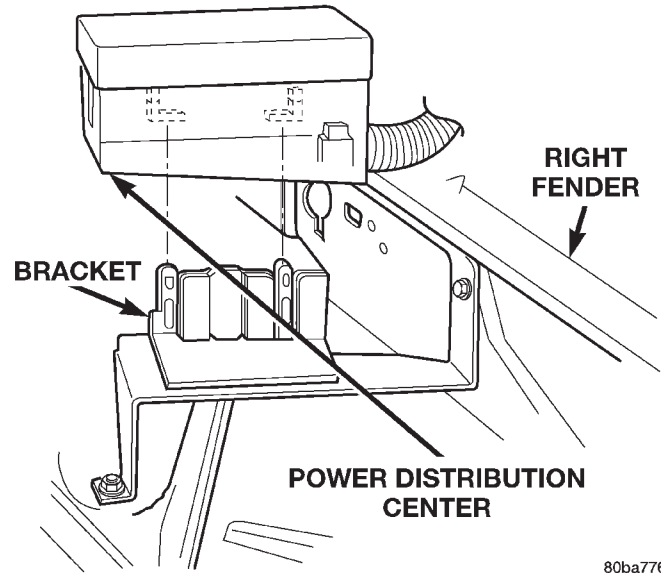
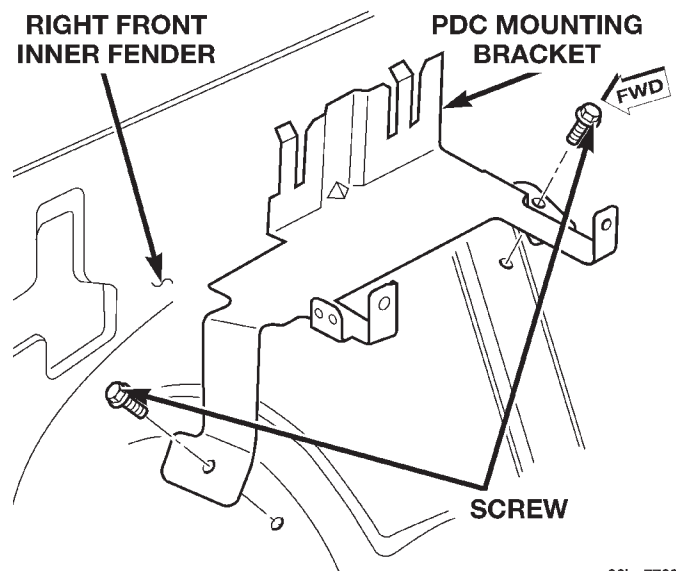

Fig. 4 Power Distribution Center Remove/Install
Fig. 5 PDC Mounting Bracket Remove/Install INSTALLATION
(6) Remove the nut that secures the eyelets of the battery wire harness PDC take outs to the stud on the PDC.
(7) Remove the battery wire harness PDC take out eyelets from the PDC stud.
(8) Disengage the latches on the PDC mounting bracket from the tabs on the PDC housing, and pull the PDC housing upward to disengage the mounting slots from the stanchions of the mounting bracket (Fig. 4).
(9) Remove the PDC and the headlamp and dash wire harness from the engine compartment as a unit.
(10) Remove the two screws that secure the PDC mounting bracket to the right front inner fender (Fig. 5).
(11) Remove the PDC mounting bracket from the right front inner fender.